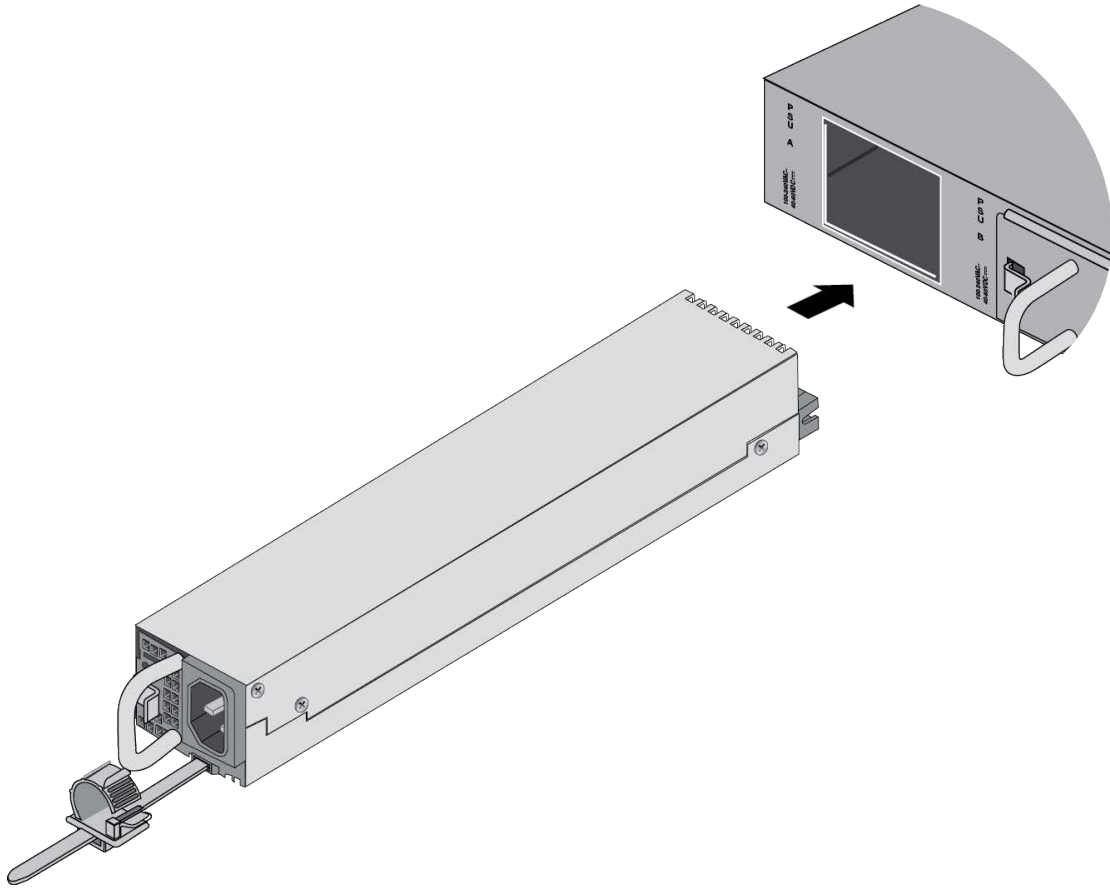

Figure 39. Sliding the AT-PWR600 or AT-PWR600R AC Power Supply into the Chassis
3. Carefully align the power supply in the slot and slide it into the slot. Figure 39 shows the module aligned for the PSU A slot.